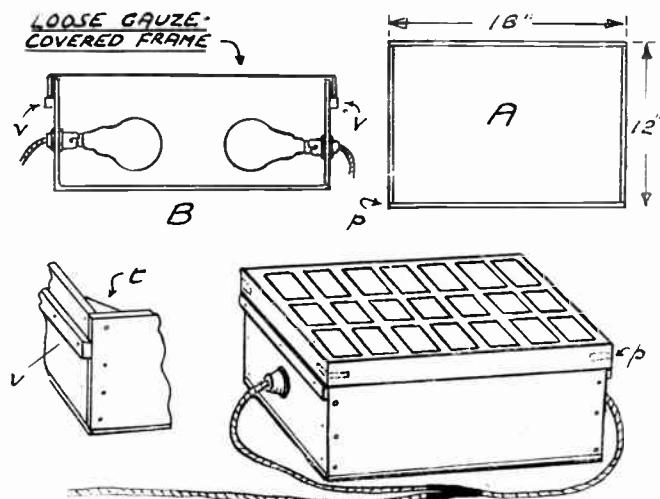

Fig. 2—An electric lamp container
excellent thing to have a heat drier, the heat being supplied by two electric bulbs encased in a container as Fig. 2. First required is the gauze-covered frame (A) which in general is the same as the one just described. In this case, however, a convenient size is 12ins. by 18ins., which means that it will hold three rows of seven each of 3½in. by 2½in. prints at any one time.